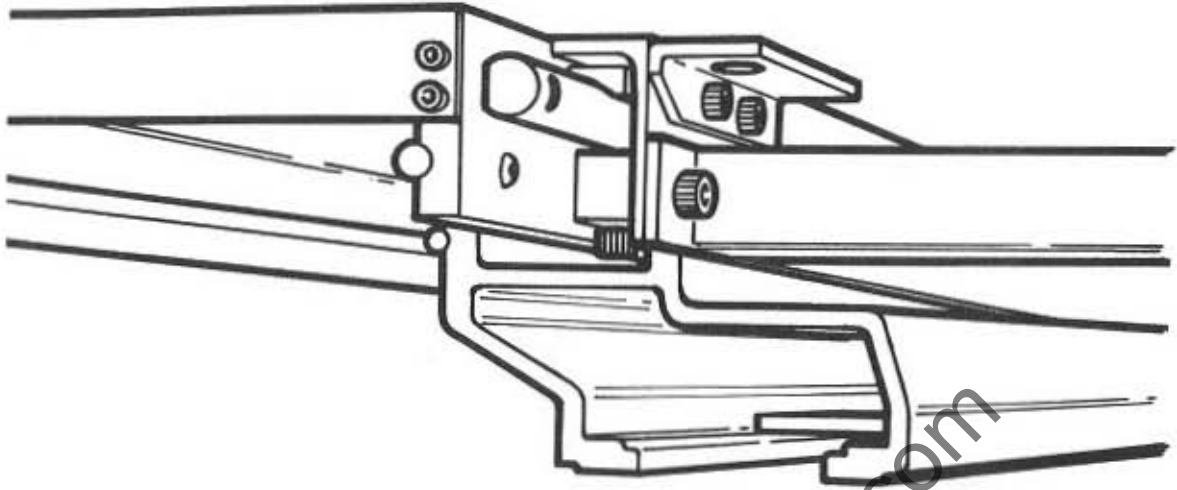

FIG 3
1. Engage location vee's at front of extension table over round bar on edge of sliding table as shown in FIG 3.